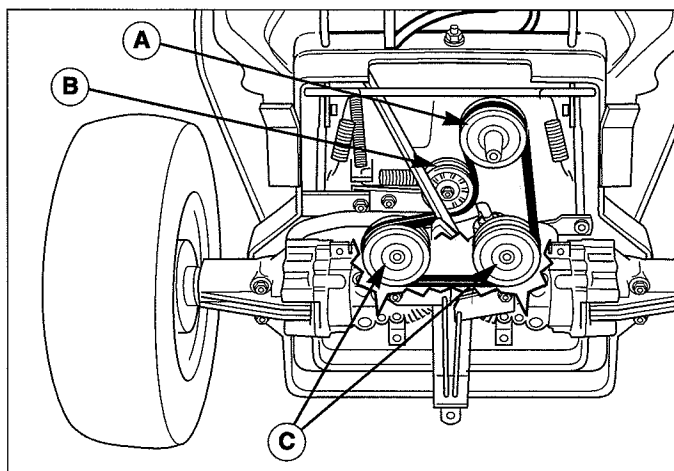

Figure 34. Drive Belt Routing
7. Remove the old belt and install a new belt as shown in Figure 34.